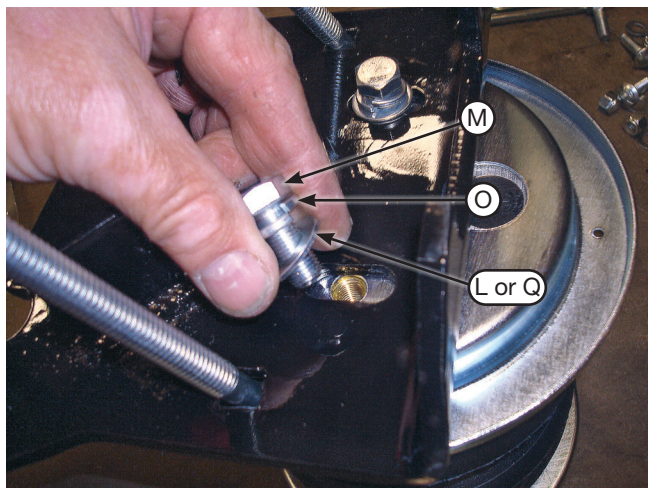

Fig. 11
5. Install the lower bracket onto the air spring assemblies using the 3/8" x 7/8" hex cap screws (M), 3/8" lock washers (O) and 3/8" flat washers (L or Q). Leave finger tight at this time (Fig. 11).